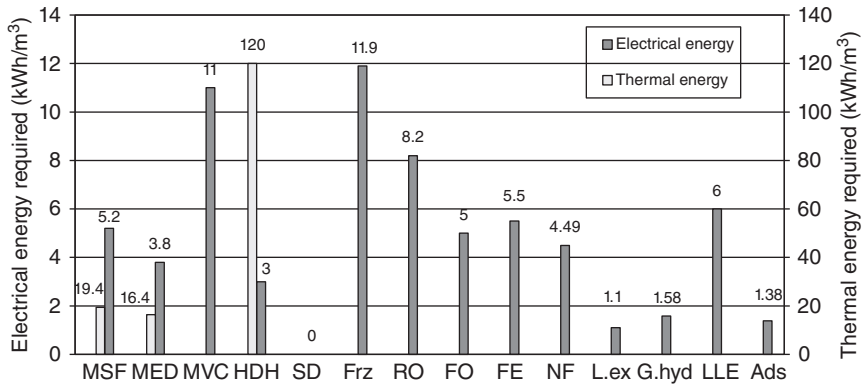

Figure 1.4 Specific energy consumption using different desalination technologies. Source: Youssef et al. 2014 [3]. Reproduced with permission of Elsevier.
2. Energy consumption: The second parameter that needs to be considered during selection is the value of specific energy consumption (SEC) that is required to desalt feedwater when electrical and/or thermal energies are used. Figure 1.4 predicts the amount of SEC (kWh/m³) per desalination system.